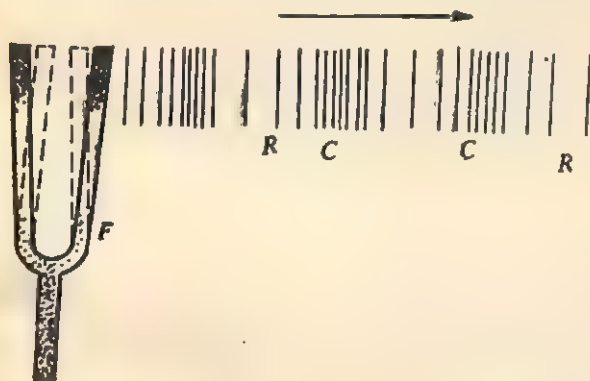

Fig. 5.1. Compressions (C) and Rarefactions (R) produced by a vibrating tuning fork F.
(2) Sound travels in the form of **waves**. These waves may be either **Longitudinal** or **Transverse** as discussed below.
(3) **Longitudinal Waves**. These are the waves in which the particles of the medium in which the wave travels, vibrate along the same line along which the wave propagates as shown in Fig. 5.1.
As the prong of the tuning fork vibrates, it presses the air particles in front of it, which in turn press the particles next to them and the pressure is passed on to the successive layers of the medium. In this process **compressions C** and **rarefactions R** are formed as shown in Fig. 5.1. Sound always propagates in the form of **longitudinal waves** in gases and in some liquids. In solids, it may travel as longitudinal waves or as transverse waves.
(7) **Wave Length.** (Reference Fig. 5.1).